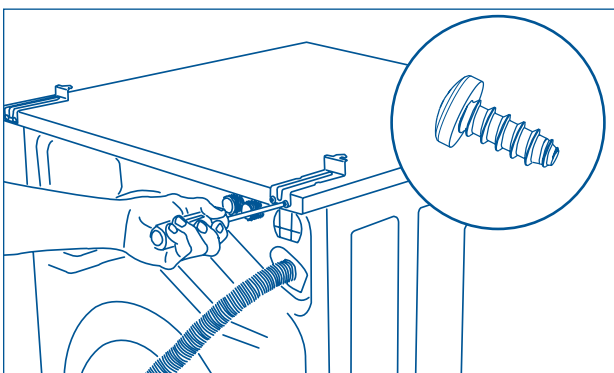

Figure 2-54.
3. Attach each rear bracket to washer top with 2 #10 screws. (See Figure 2-54)